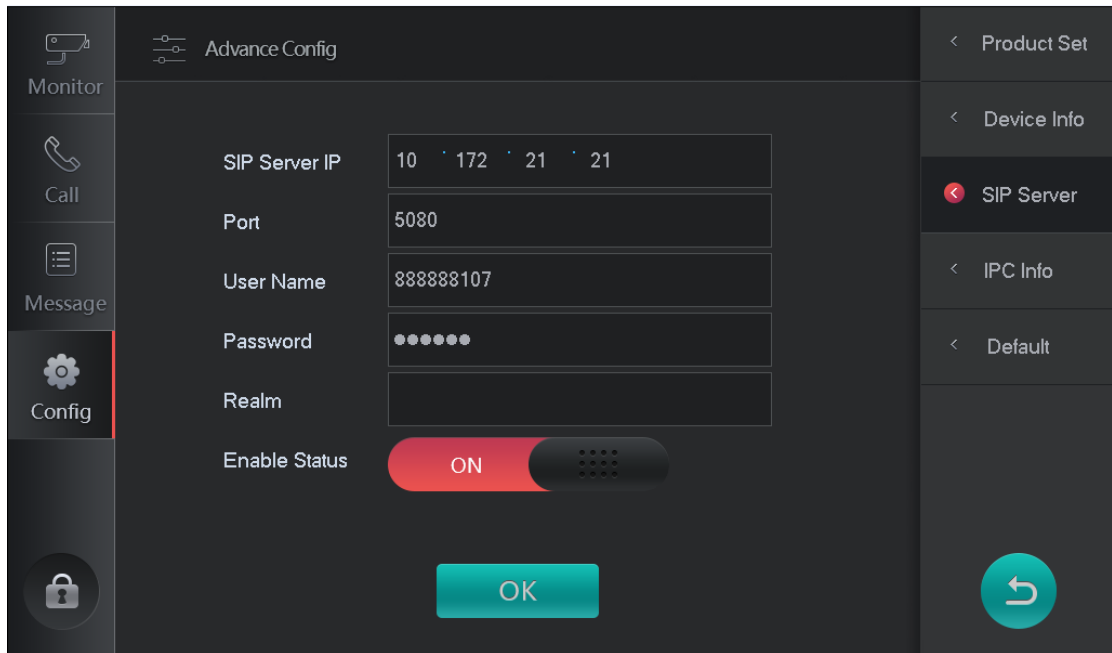

Figure 3-6
- Step 1. Select Config>Advance Config>SIP Server, see Figure 3-6.